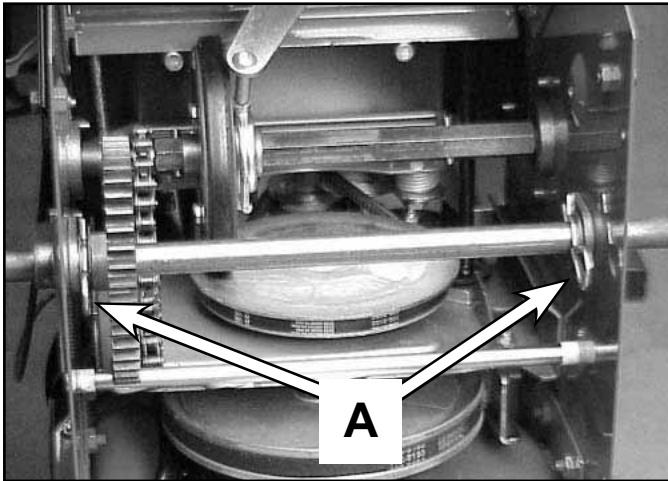

Fig 103
6. Remove the large hairpin on either end of the axle (Fig. 103).